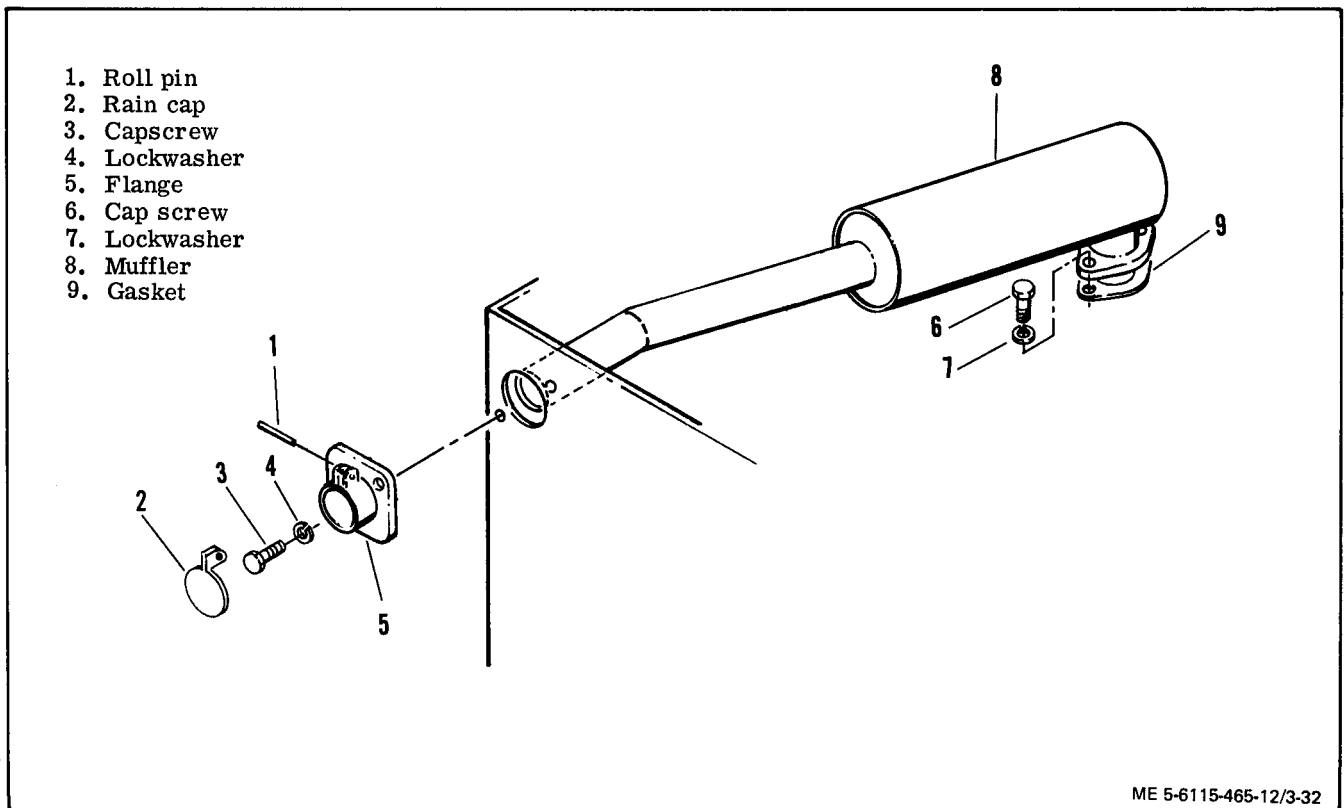

Figure 3-32. Muffler, Exploded View
(1) Remove roll pin (1, figure 3-32) to remove rain cap (2).
(2) Remove cap screws (3), lockwashers (4) to remove flange (5).
(3) Remove cap screws (6) and lockwashers (7) to remove muffler (8) and gasket (9). Discard gasket.